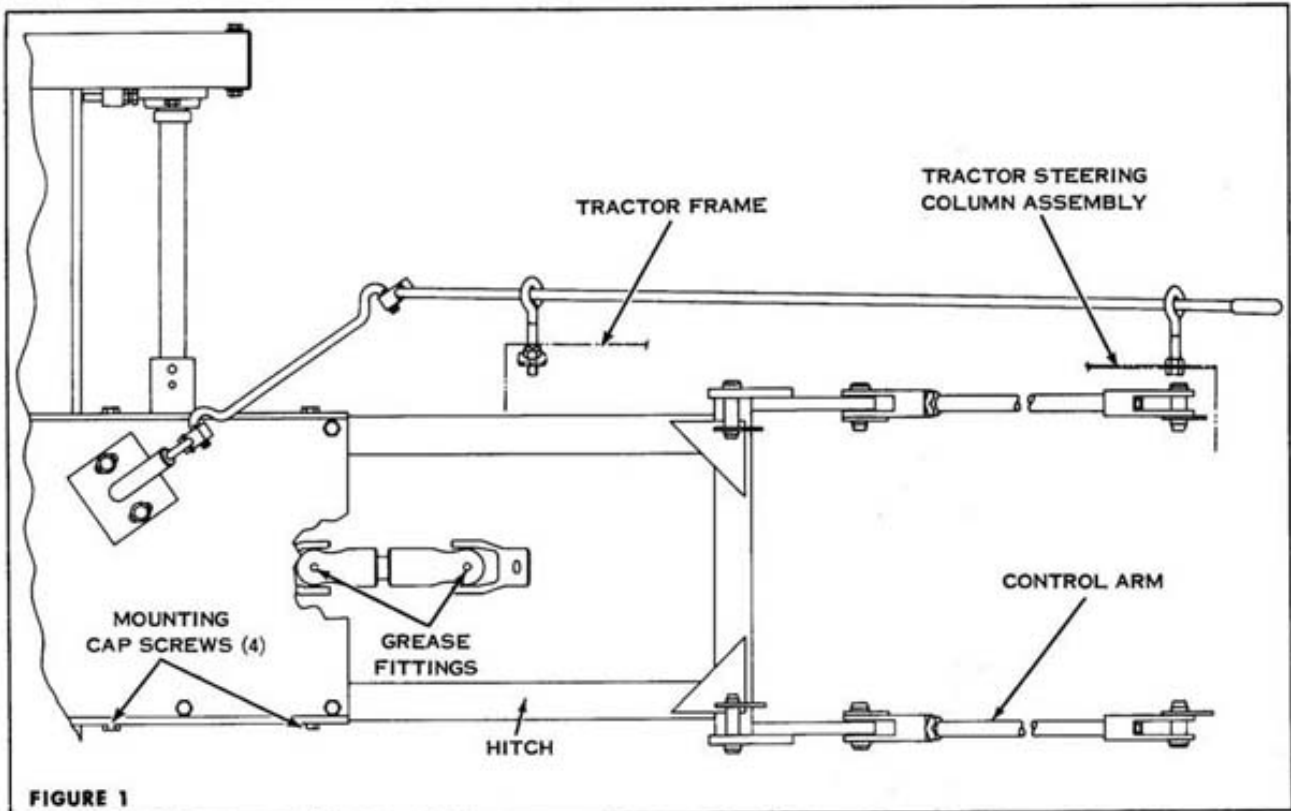

FIGURE 1
(1) After removing the snow caster from its carton, mount the hitch as shown in Fig. 1 using four 3/8-16 x 2-1/4" hex head cap screws, lock washers and hex nuts.
To mount crank handle assembly, first mount the two eye bolts on right side of tractor frame (lower bolt) and metal housing (upper bolt) as shown in Fig. 4. Next, slip the crank handle through the eye bolts from lower eye bolt up. Handle end first, then position the eye bolts so that the crank handle moves freely and lock the eye bolts in place. NOTE: See Fig. 1 for correct mounting of eye bolts. Then attach the crank handle assembly to the swivel blocks as shown in Fig. 4, and insert cotter keys.